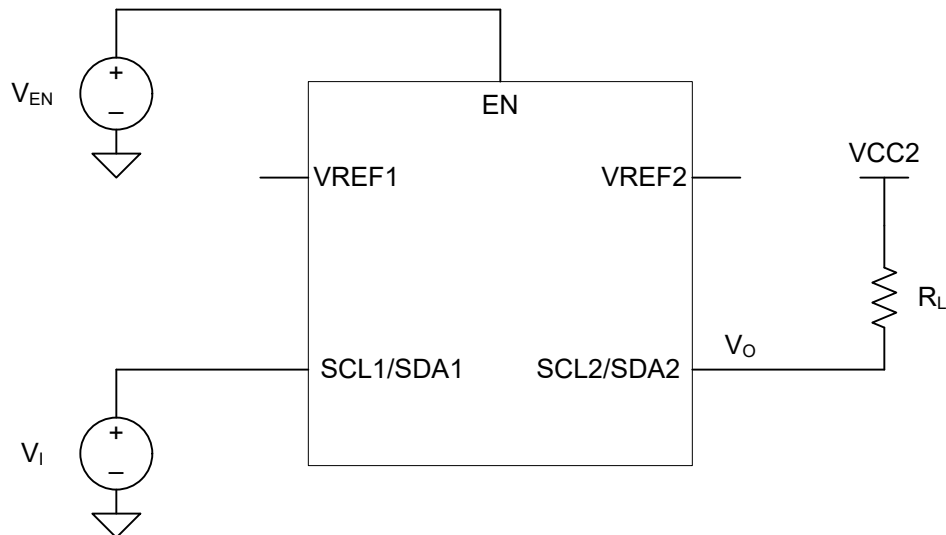

Figure 7-2. Direct Propagation Measurement
(1) Translating Down: the high-voltage side driving toward the low-voltage side. See Figure 7-2
(1) Translating up: the low-voltage side driving toward the high-voltage side. See Figure 7-2